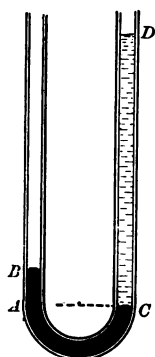

FIG. 58. — U-tube with mercury and another liquid.
16. In figure 58, the U-tube is partly filled (BAC) with mercury whose density is 13.6 grams per cubic centimeter, and partly (CD) with a liquid of unknown density. If the length of the column BA is 5 centimeters and that of the column CD is 75 centimeters, what is the density of the liquid?